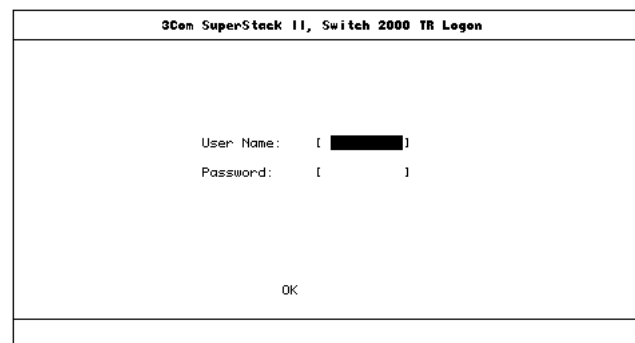

Figure 3-6 Logon Screen
- 4 Log on using the default name **security** and password **security**. See Figure 3-6.